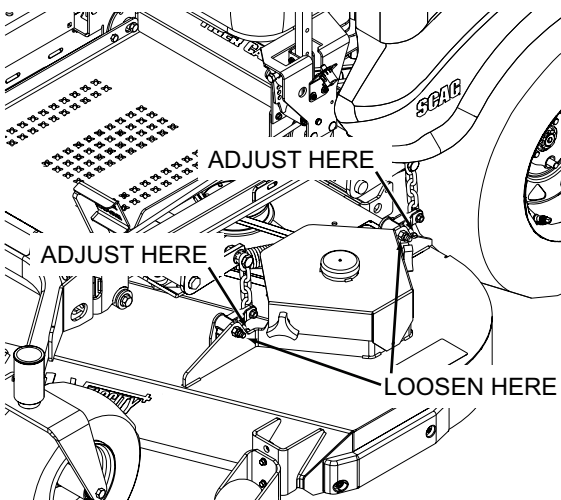

Figure 6-5. Cutter Deck Level Adjustment
1. If the cutter deck is lower on one side, loosen the elastic stop nuts securing the deck level links on the front and rear of the lower side. See Figure 6-5.
2. Turn the adjustment bolts on the front and rear deck level links clockwise until the cutter deck is level between both sides. See Figure 6-5.
3. Tighten the two (2) elastic stop nuts to secure the cutter deck in the proper position.